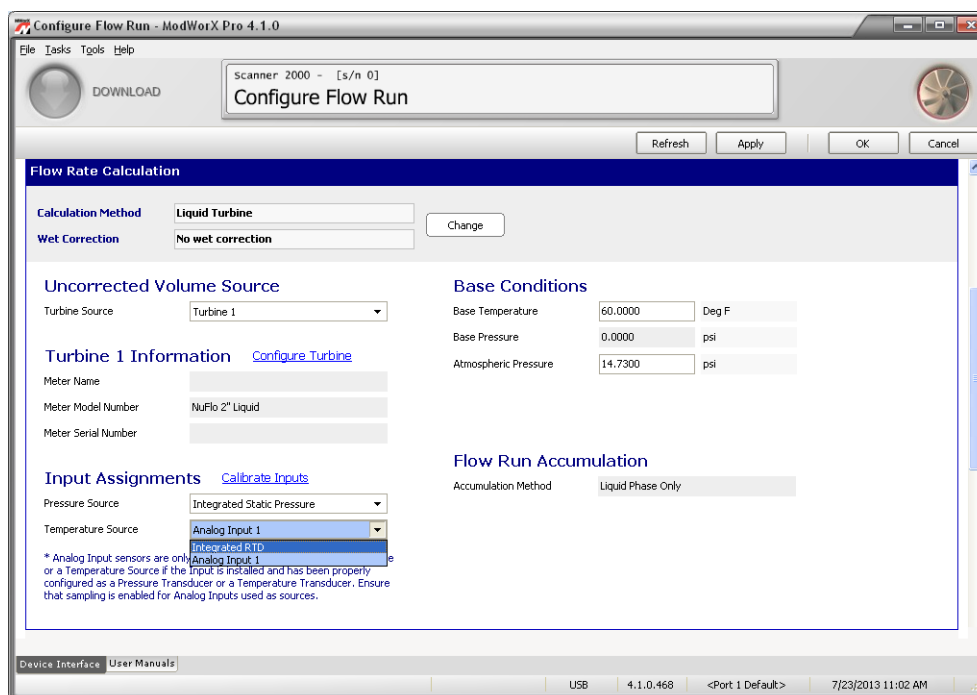

Figure 4.12
- Under Input Assignments, verify the pressure source and/or temperature source to be used. If measuring liquids, only a temperature source will be selectable (Figure 4.12, page 63). To calibrate the sensor inputs from this screen, click on the blue **Calibrate Inputs** hyperlink and follow the screen prompts.